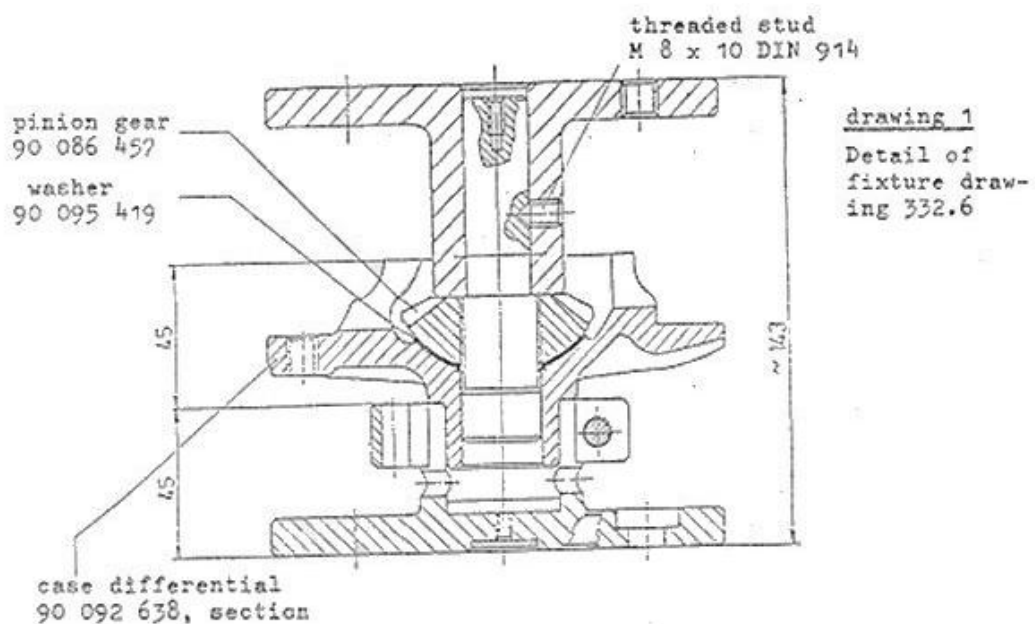

Figure 1 / 그림 1: Details of Fixture Drawing
4.1.2 Test Setup. An example for the test setup for the test of washers in a genuine differential case section - for details refer to Photo 1 and Figure 1.